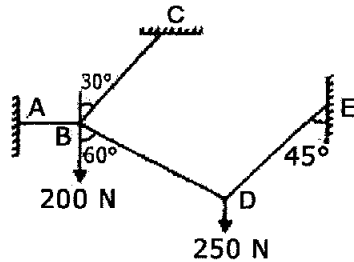

Figure 1
1. (a) State and explain Varignon's theorem of moments. (4)
- (b) A system of connected flexible cables shown in Figure 1 is supporting two vertical forces 200 N and 250 N at points B and D. Determine the forces in various segments of the cable. (6)